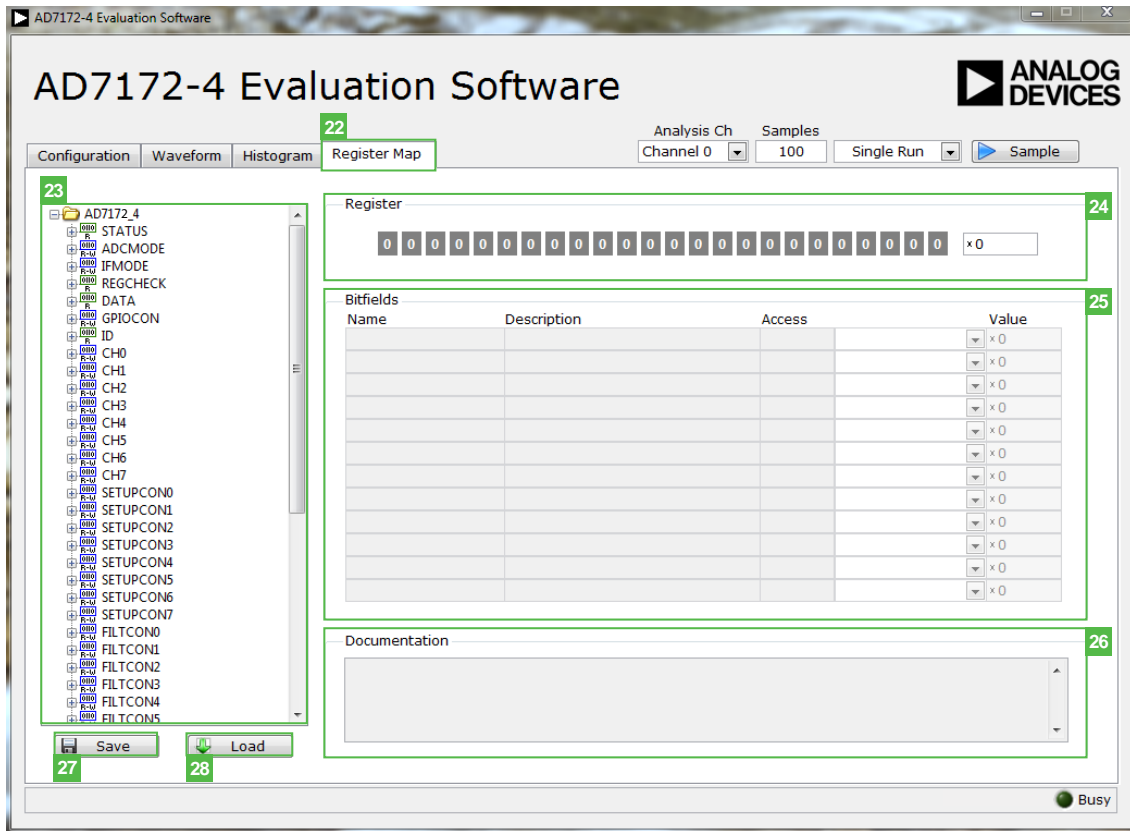

Figure 10. Register Map Tab of the AD7172-4 Evaluation Software
See Figure 10 for the Register Map (22) tab.
The register tree (23) control shows the full register map in a tree control. Each register is shown. Click the expand button next to each register to show all the bit fields contained within that register (see Figure 10).
The Register (24) control allows you to change the individual bit of the register selected in the register tree (23). Click on the bit in the register tree (23) or program the register value directly into the number control on the right (see Figure 10).
The Bitfields (25) list shows all the bit fields of the register selected in the register tree (23). Change the values using the drop-down menu or by directly entering a value into the Value number control on the right (see Figure 10).
The Documentation (26) field contains the documentation for the register of bit field selected in the register tree (23) (see Figure 10).
The Save (27) and Load (28) buttons allow you to save the current register map setting to a file and load the setting from the same file (see Figure 10).